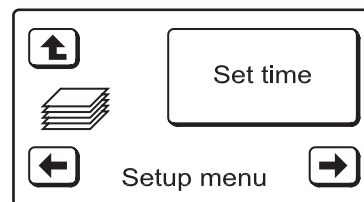
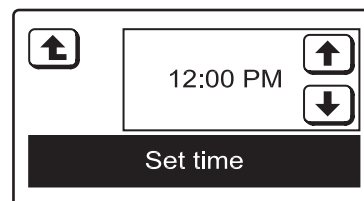

FIG. 43
FIG. 44
2. Press the SET TIME button (See Figure 43) and the display will change to show the Set time screen (See Figure 44).